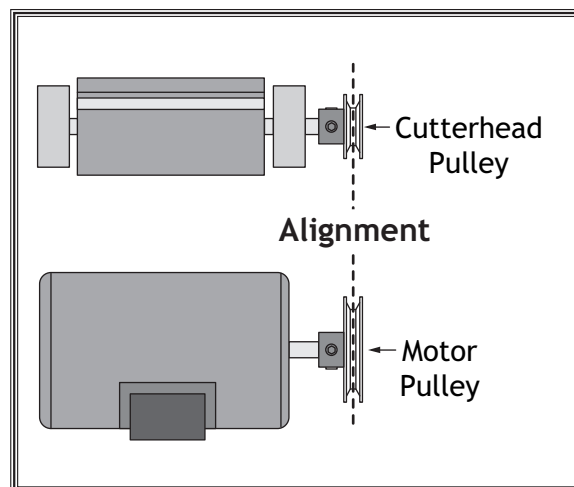

Figure 67. Pulleys aligned.
3. Visually check the alignment of the two pulleys to make sure that they are aligned and that the V-belts are straight up and down (see **Figure 67**).